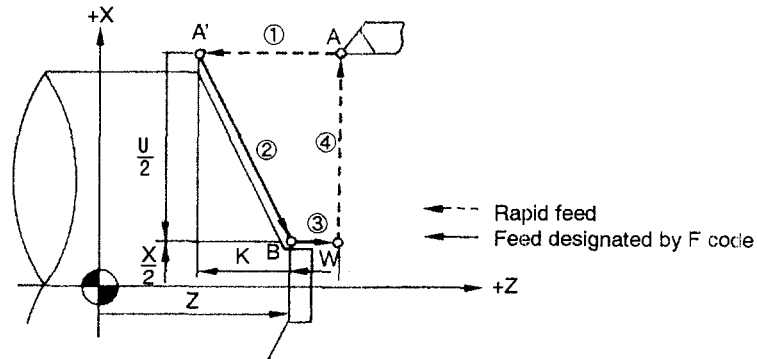

Fig. 4.16 Taper Facing Cycle
With the commands of “G94 X(U) ··· Z(W) ··· K ··· F(E) ···;”, taper facing cycle of ① to ④ as shown in Fig. 4.16 is executed.